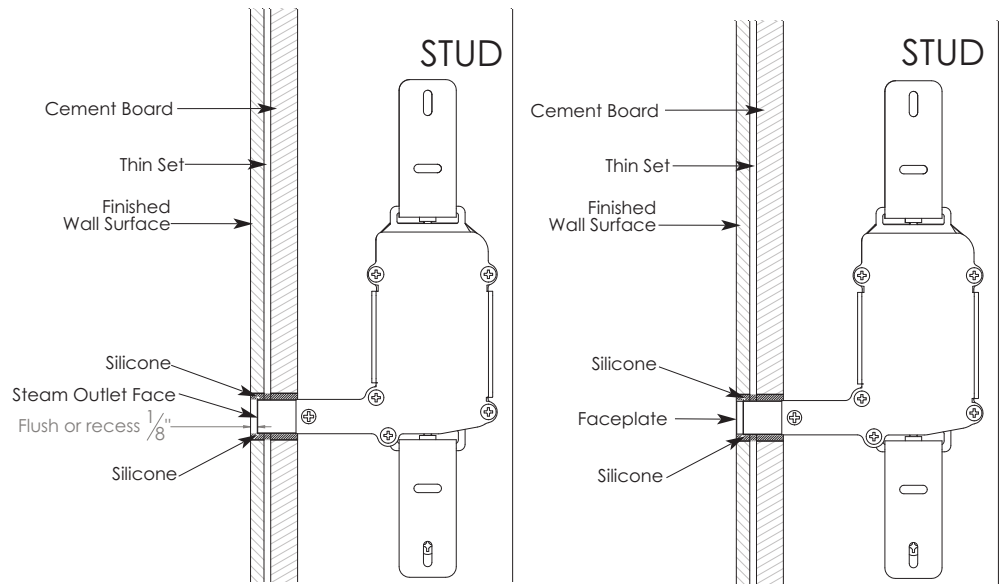

Figure 4
STEP 3. Determine the location of the finished wall surface. Mount the steam head between two studs using the horizontal slotted holes to position the steam outlet face to be flush or recess 1/8" from the finished wall surface (see fig. 4)
STEP 2. After the finished wall surface has been installed use high temperature silicone around the steam outlet as required to make a waterproof seal. Do not use grout in place of high temperature silicone around the steam outlet. Using grout may result in cracks and leaks causing property damage. (see Fig. 4)